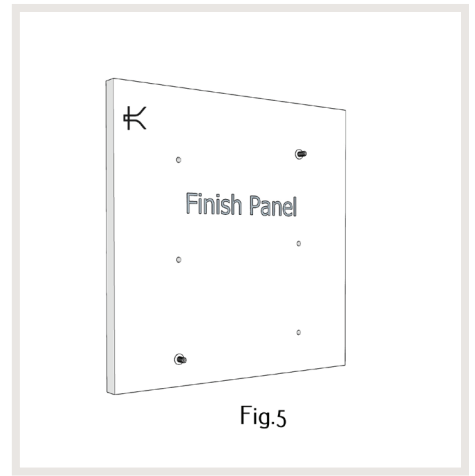

Fig.5
7. Install a supplied plastic washer over each of the two set screws. ***Fig5**